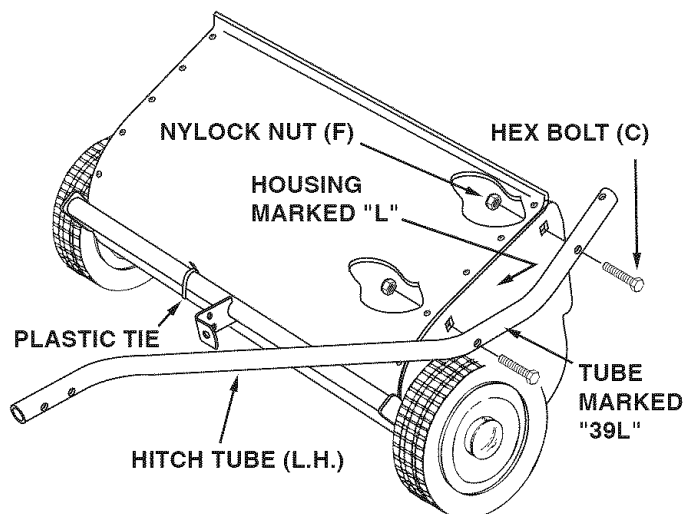
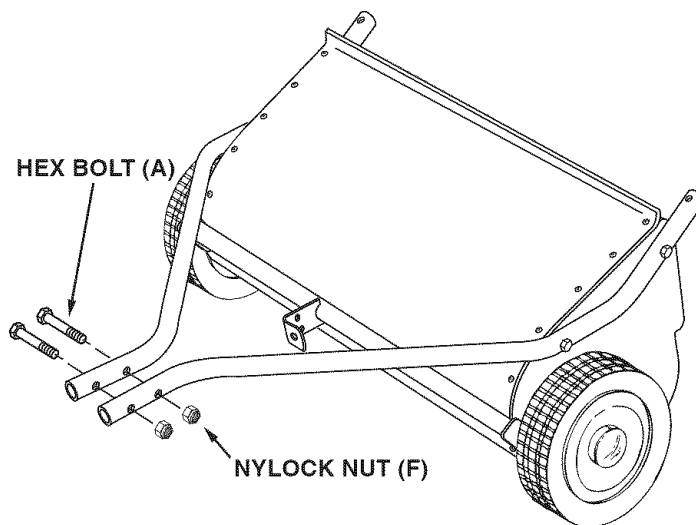
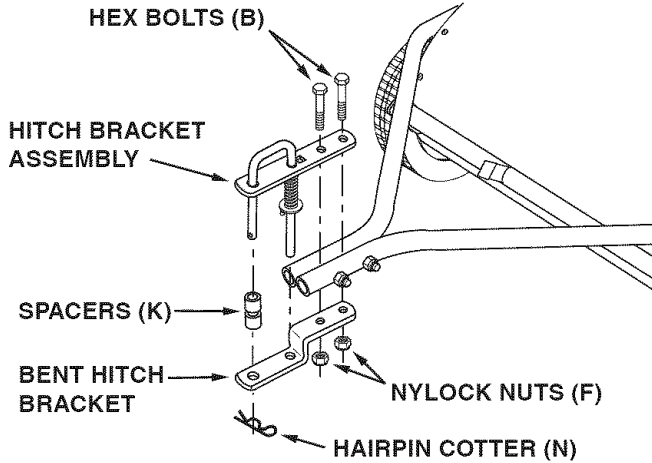

FIGURE 1
FIGURE 2
FIGURE 3
- (1) 1/2" Socket Wrench (recommended)
- The hitch tubes are stamped with a "39L" for the left tube and a "40R" for the right tube. The sweeper housing is marked with an "L" on the left side and an "R" on the right side. See figure 1.
- Hold the left hitch tube so that the end stamped with "39L" is beside the left side of the sweeper and the front end of the tube angles inward. Attach using two hex bolts (C) and nylock nuts (F). Repeat for the right hitch tube. **Do not tighten yet.** See figure 1.
- Remove the plastic tie that fastens the height adjustment tube to the front of the sweeper housing. See figure 1.
- Fasten the hitch tubes together using two hex bolts (A) and nylock nuts (F). **Do not tighten yet.** See figure 2.
- If the tractor hitch is less than 10" above the ground, place the bent hitch bracket underneath the hitch tubes and place the hitch bracket assembly on top of the hitch tubes. Insert two hex bolts (B) through the brackets, with the rear hex bolt between the cross bolts in the hitch tubes. Secure the hex bolts (B) with two nylock nuts (F). See figure 3. **Do not tighten yet.**
- Assemble the two spacers (K) onto the hitch pin and secure the pin with the hairpin cotter (N). See figure 3.
- **Tighten** the four bolts in figure 1 that fasten the hitch tubes to the sweeper housing. Next, **tighten** the two bolts in figure 2 that fasten the ends of the hitch tubes together. Finally, **tighten** the two bolts in figure 3 or 4 that fasten the hitch brackets to the hitch tubes.